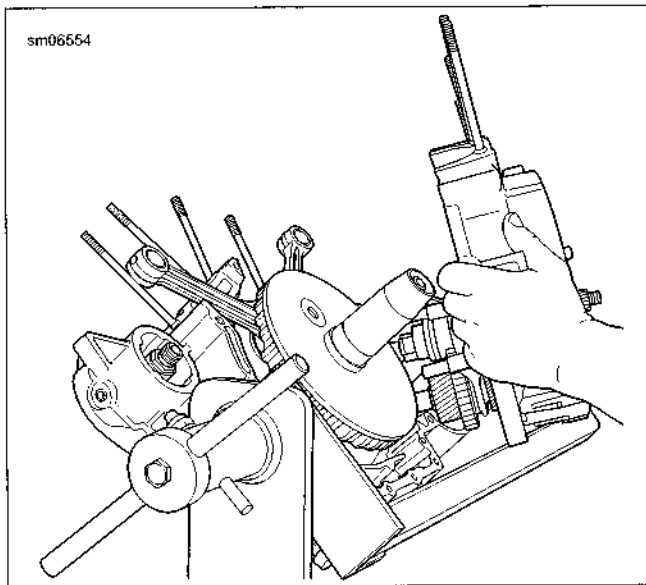

Figure 3-115. Assembling Crankcases with Crankshaft Guide Tool (Part No. HD-42326-B)
- d. See Figure 3-115. Carefully fit crankcases together.